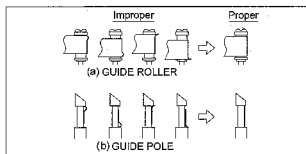
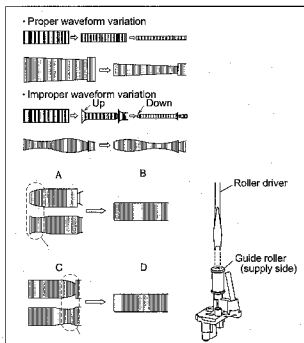

Fig.4-2b
Fig.4-2c
- To prevent damaging the alignment tape in the compatibility adjustment, prepare a cassette tape (for self-recording/playback), perform a test on it by transporting it and making sure that the tape is not bent by the tape transport mechanisms such as in the guide rollers. (See Fig.4-2b.)
- (1) Play back the alignment tape (A1).
- (2) Apply the external trigger signal to D,FF (E), to observe the V.PB FM waveform at the measuring point (D).
- (3) Set the VCR to the manual tracking mode.
- (4) Make sure that there is no significant level drop of the V.PB FM waveform caused by the tracking operation, with its generally parallel and linear variation ensured. Perform the following adjustments when required. (See Fig. 4-2c.)
- (5) Reduce the V.PB FM waveform by the tracking operation. If a drop in level is found on the left side, turn the guide roller of the pole base assembly (supply side) with the roller driver to make the V.PB FM waveform linear.
- (6) If a drop in level is on the right side, likewise turn the guide roller of the pole base assembly (take-up side) with the roller driver to make it linear. (See Fig. 4-2c.)
- (7) Make sure that the V.PB FM waveform varies in parallel and linearly with the tracking operation again. When required, perform fine-adjustment of the guide roller of the pole base assembly (supply or take-up side).
- (8) Unload the cassette tape once, play back the alignment tape (A1) again and confirm the V.PB FM waveform.
- (9) After adjustment, confirm that the tape wrinkling does not occur at the roller upper or lower limits. (See Fig. 4-2b.)